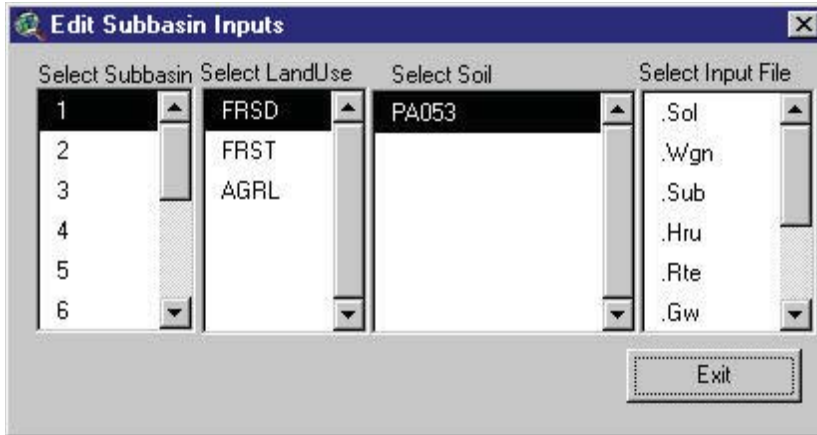

Figure 12.3
The Edit Subbasins Inputs dialog box is displayed (Figure 12.3).
- iv. Once you have made all your selections, click **OK**. The interface will save all the settings changes and return to the Edit Subbasins Inputs dialog box (Figure 12.3).